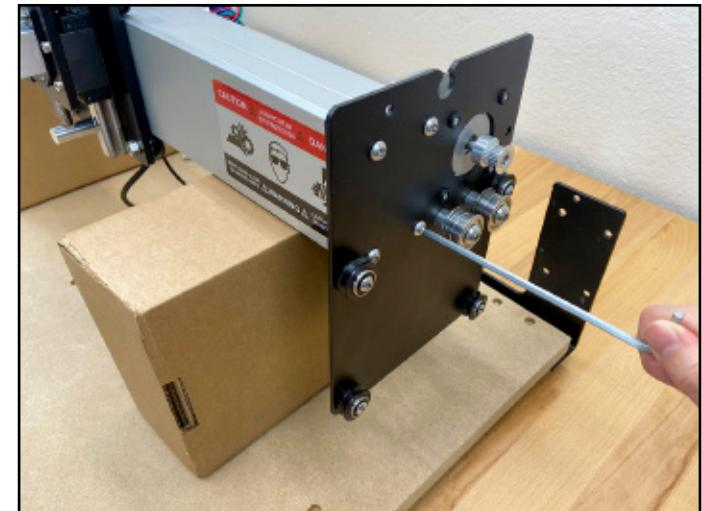

Figure 3-18
2. Use the 4mm hex key and four (4) M6x12mm button head cap screws to attach the Y2-carriage to the open end of the X-rail. See **Figure 3-18**.